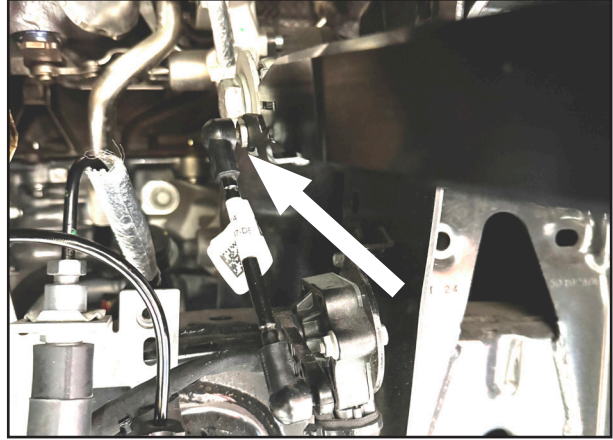

Fig. 13: Connect sensor to bracket.
18. Attach the position sensor linkage to the bracket using OE hardware. Torque to OE specification. (Figures 13, passenger side shown)